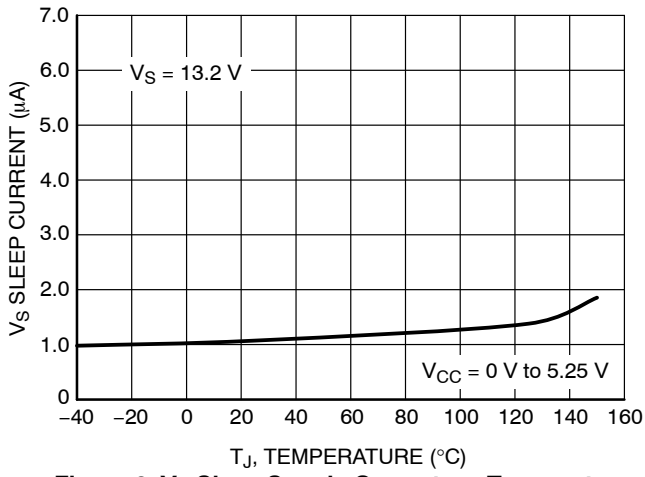

Figure 6.  $V_S$  Sleep Supply Current vs. Temperature
- For temperatures above  $85^{\circ}\text{C}$ , refer to Figure 6.
5. For temperatures above  $85^{\circ}\text{C}$ , refer to Figure 6.